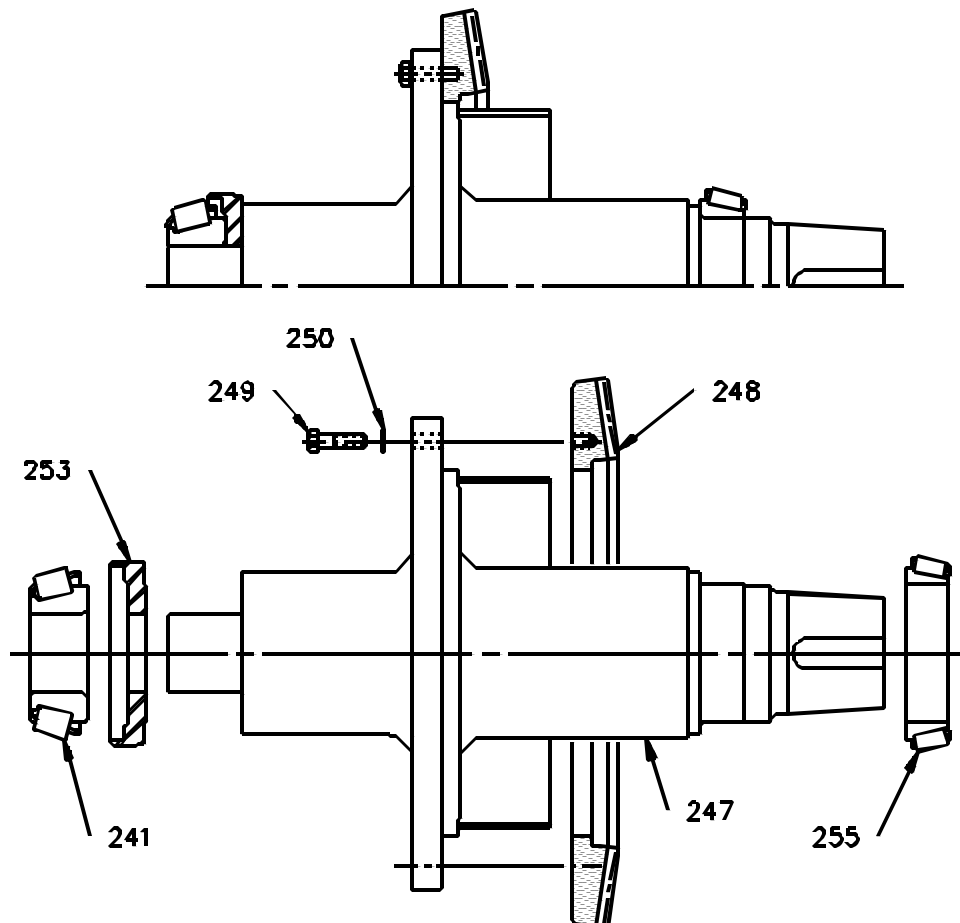

Figure 2: Output Shaft Assembly [246]
| Figure 2: Output Shaft Assembly .....                   | 5  |
15. Install a 5/8-11 eyebolt in the end of output shaft **[247]**. Lift the output shaft assembly (*Figure 2, page 5*) out of the housing.